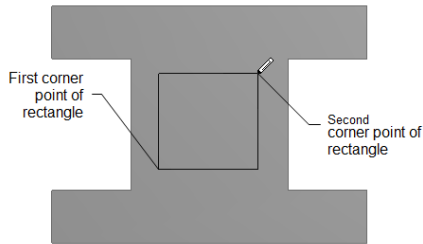

Figure 3-40 Specifying the first and second corner points of the rectangle
7. Specify the first corner point, refer to Figure 3-40; the preview of the rectangle is attached to the cursor and you are prompted to specify the diagonally opposite corner point of the rectangle.
8. Click to specify the second point of the rectangle, refer to Figure 3-40; the rectangle is created, refer to Figure 3-41.